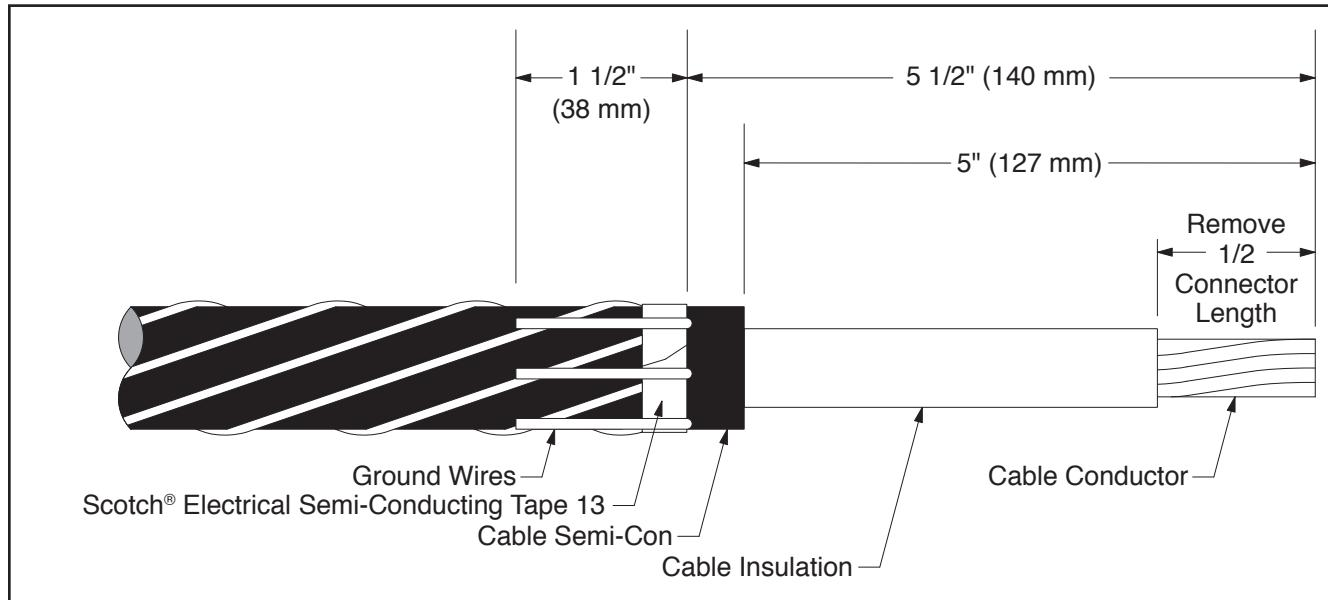

Figure 2
- b. Wrap 2 full wraps Scotch® Electrical Semi-Conducting Tape 13 over ground wires 5 1/2" (140 mm) from cable end (*Figure 2*).
- c. Cut off ground wires to a length of 1 1/2" (38 mm) and fold back onto cable (*Figure 2*). Secure the ends with copper tape, if needed.
- d. Remove cable semi-con as shown in (*Figure 2*).
- e. Remove cable insulation from cable ends for a distance of 1/2 connector length (*Figure 2*).